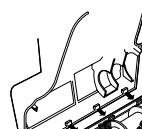

Fig. 26
- 3 To reassemble, insert the tabs on the front edge of the bottom cover into the matching holes in the top half and tilt it back down until it clicks into place. **(Fig. 26)**